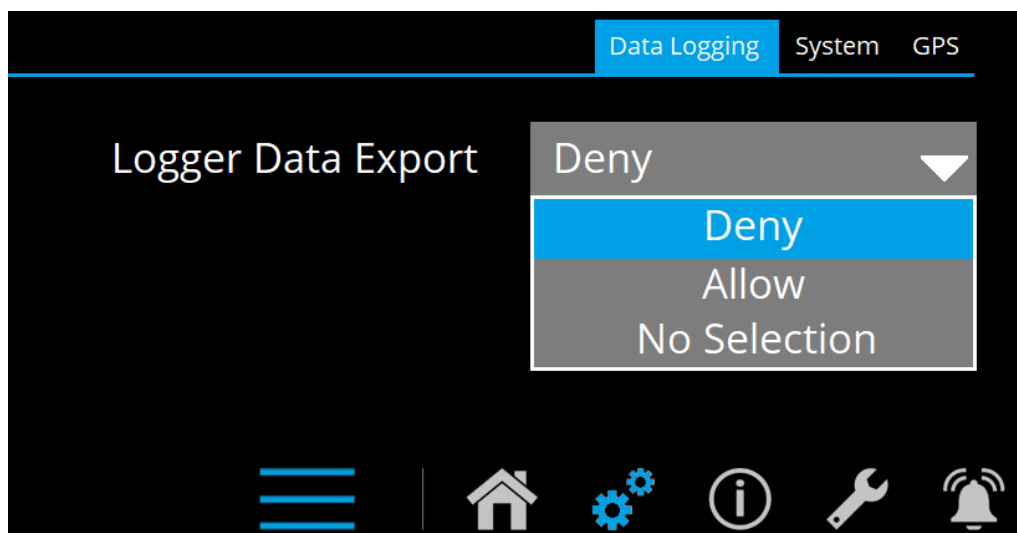

Figure 4: Hidden settings screen showing Data Logging tab
3. **PRESS AND HOLD** the gears icon again until a second screen appears (Figure 4).